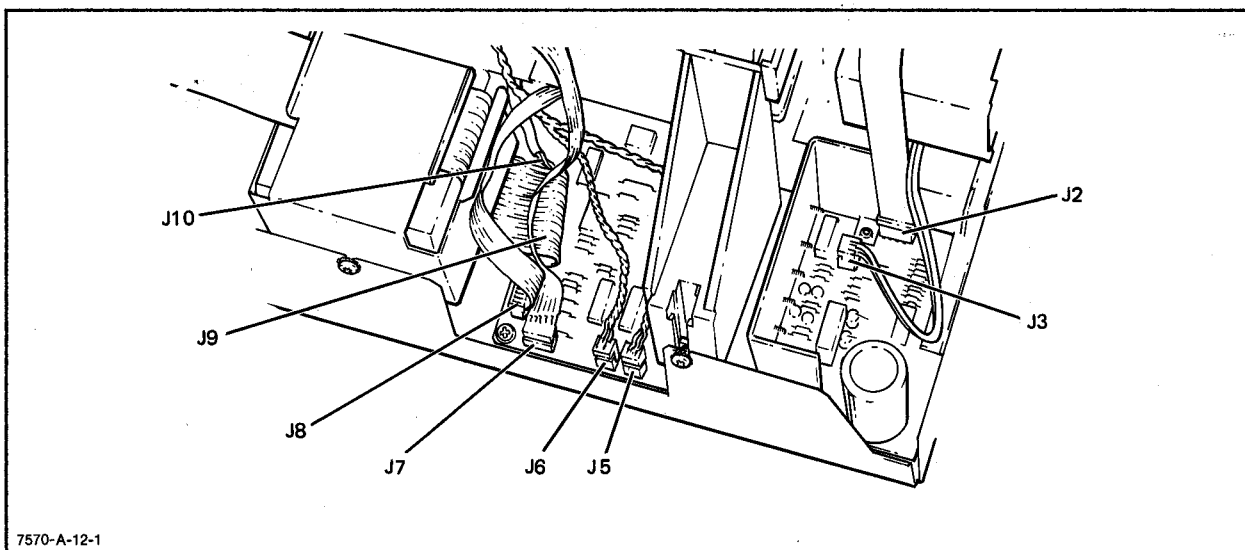

Figure 6-13. PCA Cable Connection
d. Disconnect all cables from the PCA. See Figure 6-13.
- e. Disconnect the motor cable and encoder cable from the PCA, jacks J5 and J7. See Figure 6-13.
- c. Install the base and PCA. Connect all cable assemblies. See Figure 6-13.